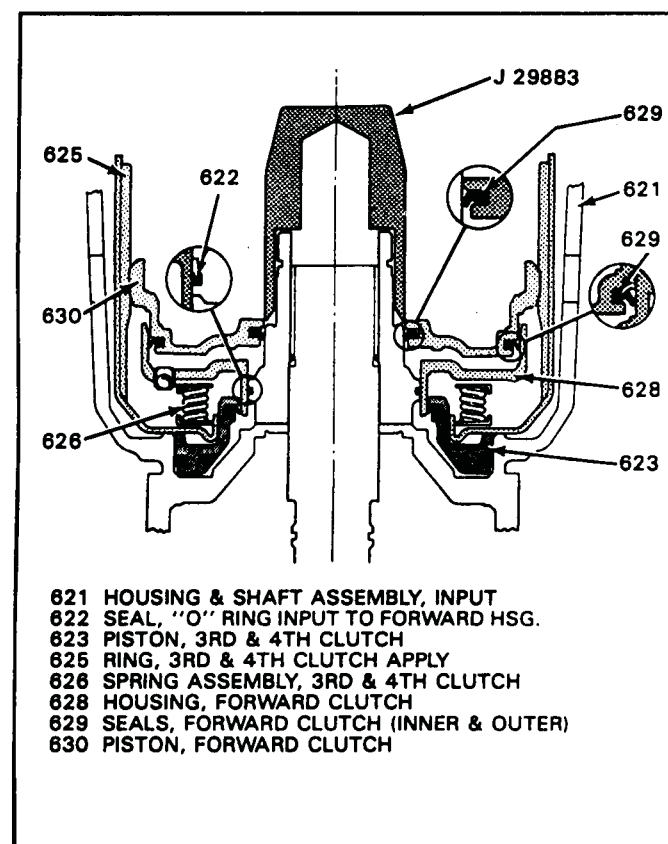

Figure 116
6. Install the 3-4 clutch apply ring on top of the 3-4 clutch piston. Refer to Figure 116, item (625).
7. Install the 3-4 clutch return spring (626) on top of the 3-4 clutch apply ring (See Figure 116).
8. Lubricate both inside diameters of the forward clutch housing (628), and then install it into the input housing, as shown in Figure 116.
9. Install the inner and outer lip seals on the forward clutch piston in the direction shown in Figure 116, with the lips facing down.
10. Install the forward clutch piston into forward clutch housing using the tool J-29883, as shown in Figure 116.